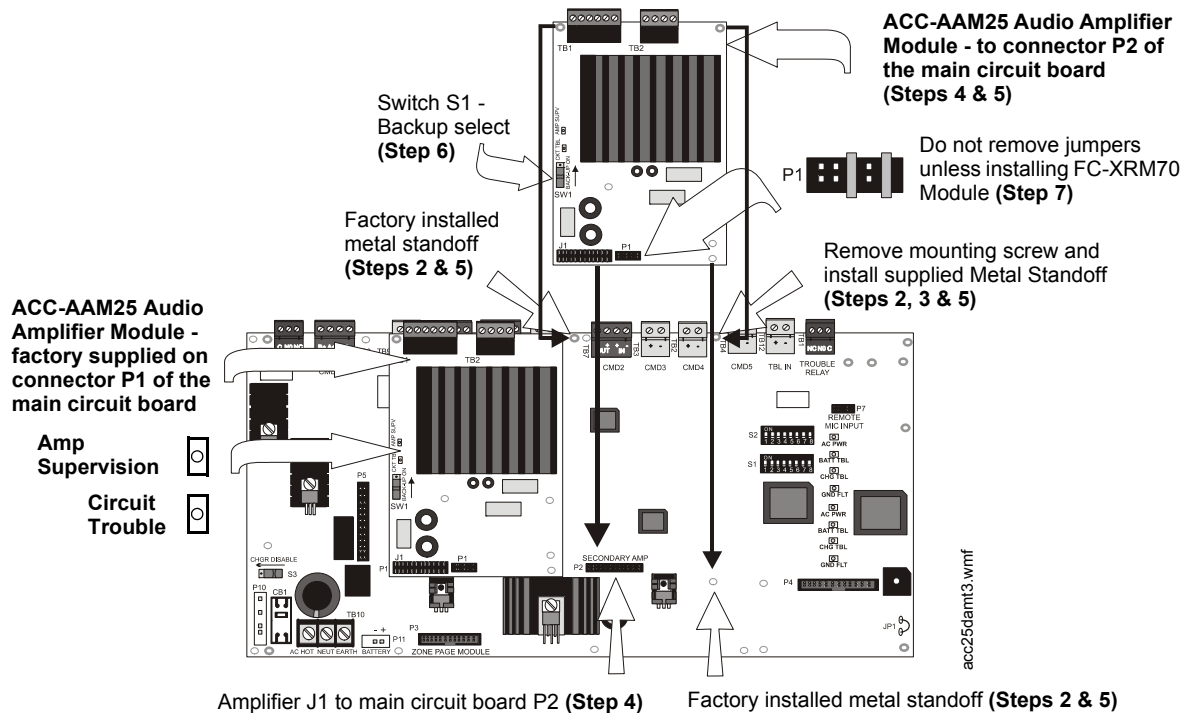

Figure 3.16 Installation of Optional Audio Amplifier
- Carefully remove the ACC-AAM25 Audio Amplifier Module(s) from the main circuit board. Figure 3.16 on page 47 for installation procedures and reverse the steps.
- Reinstall the Audio Amplifier Module(s) following the procedure accompanying Figure 3.16.